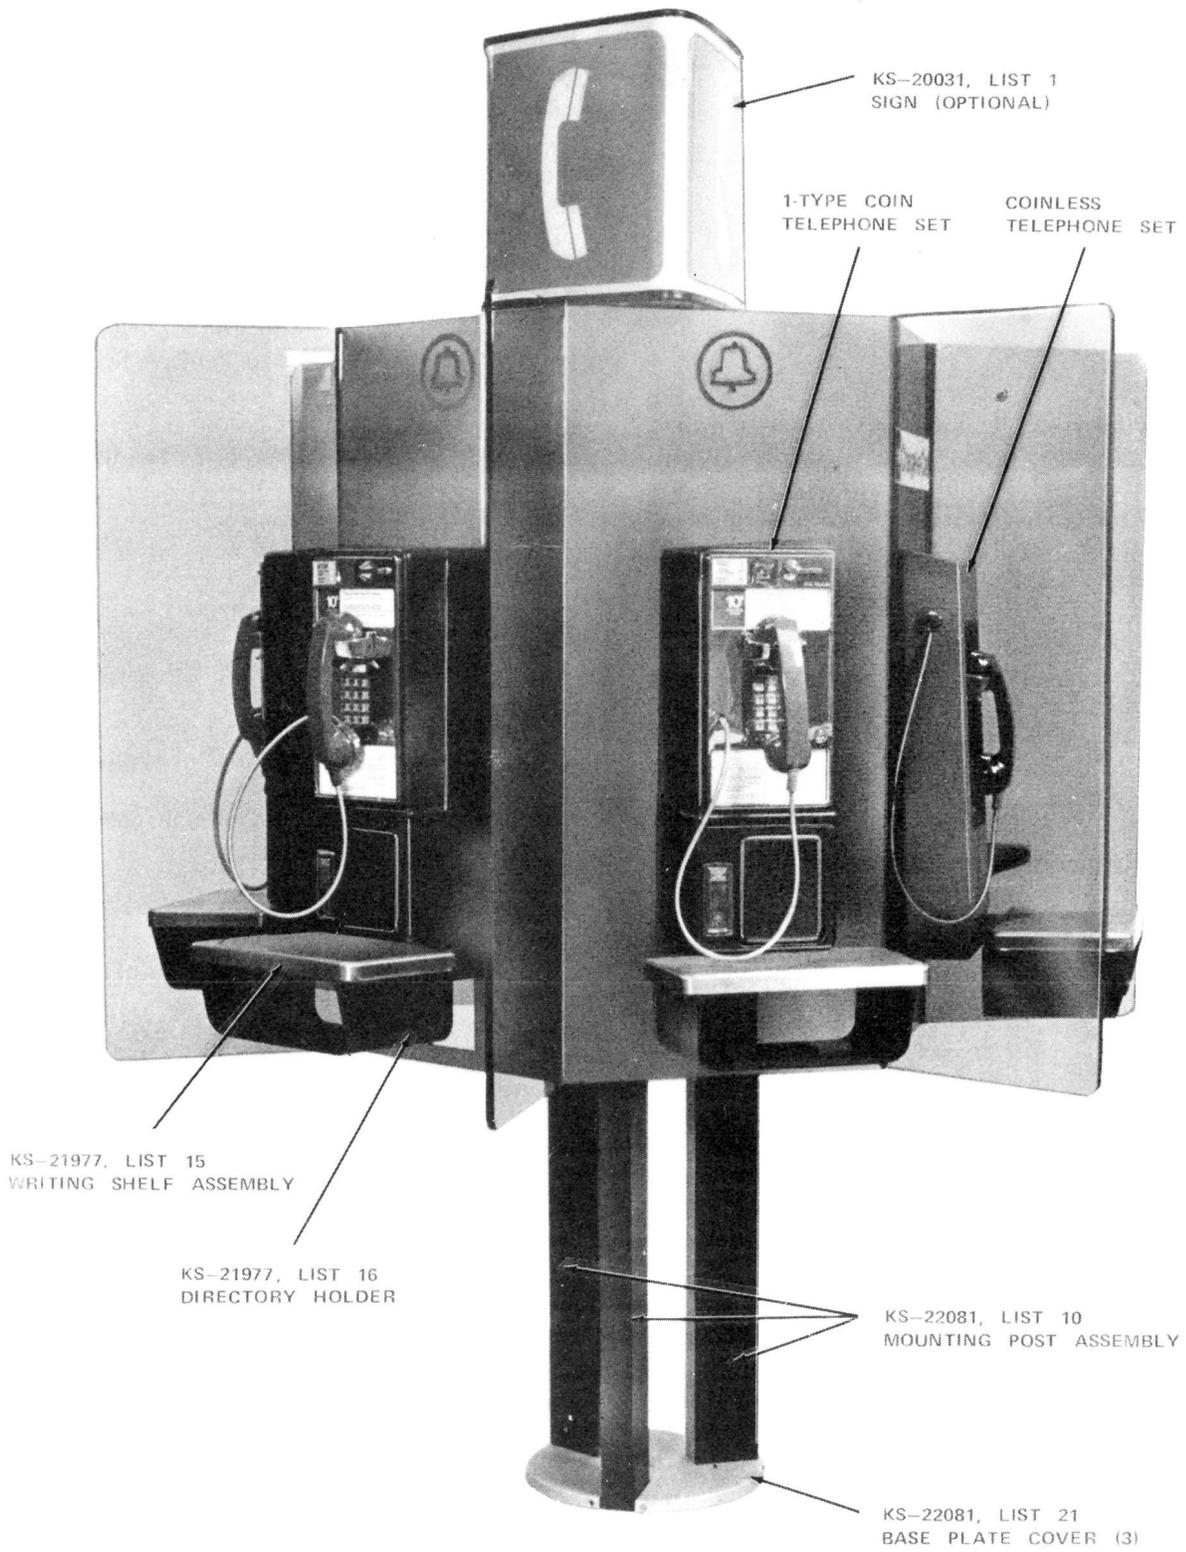

Fig. 1—KS-22081, List 101 Telephone Mounting
1.01 This section contains information on the KS-22081 telephone mounting (Fig. 1). It is intended for indoor use only where ambient lighting is sufficient.